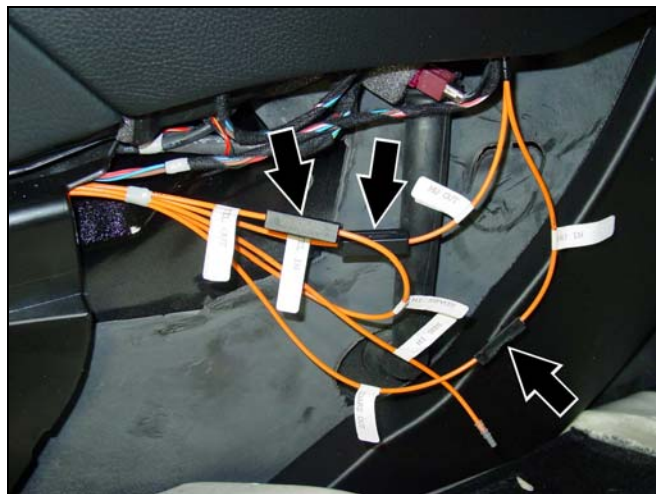

Figure 17
4. At the exposed transmission tunnel area, find the MOST couplings and configure the MOST ring (Figure 17) according to Figure 51.